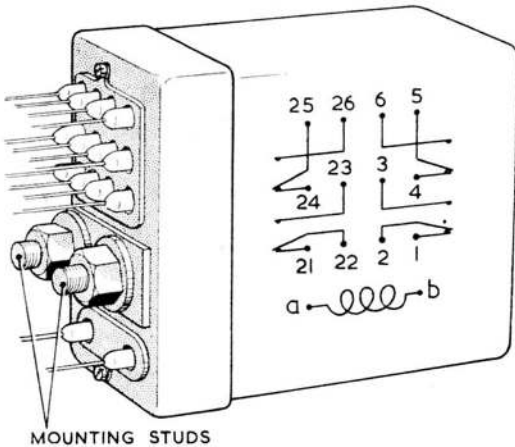

Fig. 1. Magnetic relay switch, Type M1092
1. The magnetic relay switch, Type M1092 (fig. 1), is a sealed, miniature type relay with